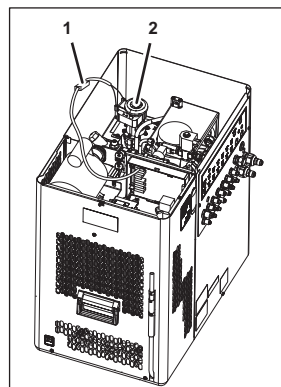

Figure 49
1. Disconnect the plug (Figure 49/1) from the circulation pump (Figure 49/2).
10. Attach the circulation pump mount (Figure 49/2) using the fastening bolts (Figure 49/1).